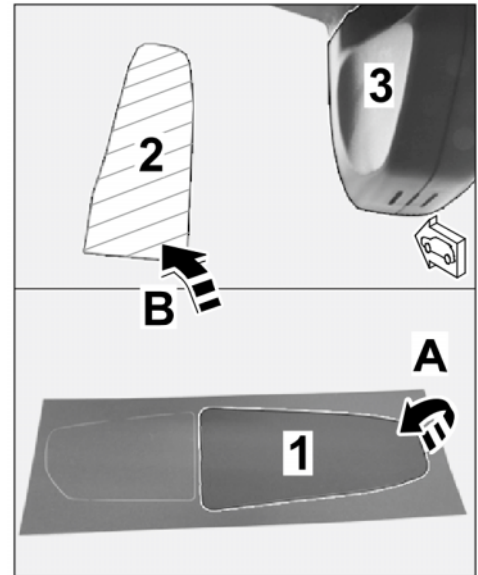

Figure 9
2.2.1 Pull 3M privacy film off the backing sheet (⇒ *Figure 9*).
2.2.2 Position 3M privacy film on the marked bonding surface on the windshield (⇒ *Figure 9*) and stick it on.